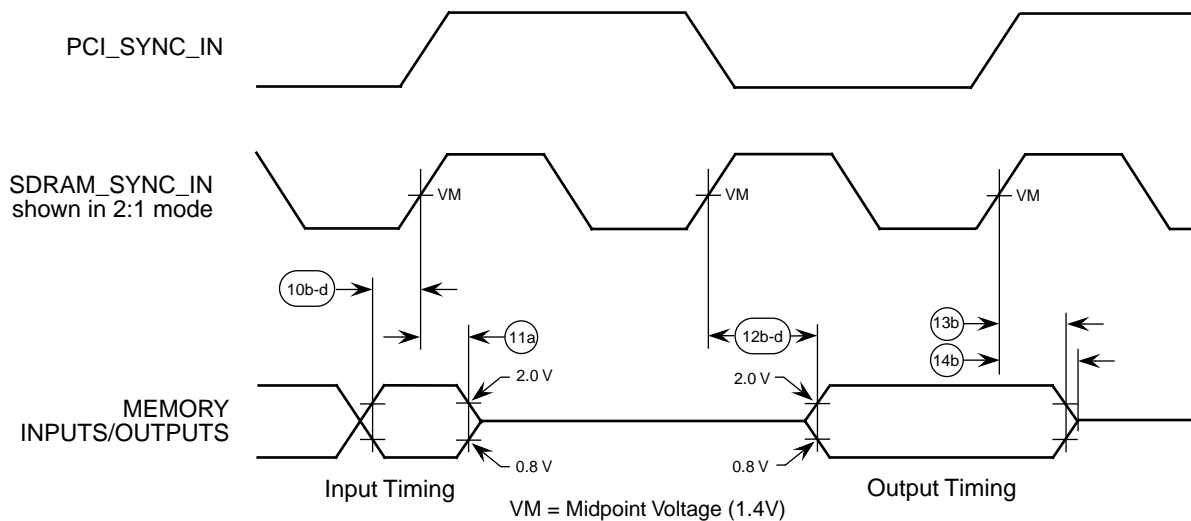
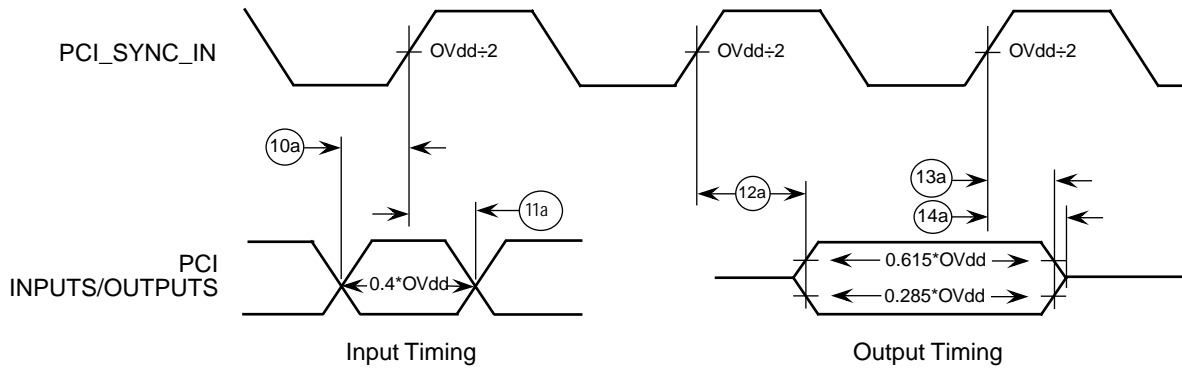

Figure 7. Input - Output Timing Diagram Referenced to SDRAM_SYNC_IN
Figure 8. Input - Output Timing Diagram Referenced to PCI_SYNC_IN
Table 9 provides the input AC timing specifications. See Figure 7 and Figure 8.
- 1 All memory, processor, and related interface input signal specifications are measured from the TTL level (0.8 or 2.0 V) of the signal in question to the $V_M = 1.4$ V of the rising edge of the memory bus clock, SDRAM_SYNC_IN. SDRAM_SYNC_IN is the same as PCI_SYNC_IN in 1:1 mode, but is twice the frequency in 2:1 mode (processor/memory bus clock rising edges occur on every rising and falling edge of PCI_SYNC_IN). See Figure 7.
- 1 All PCI signals are measured from OVdd/2 of the rising edge of PCI_SYNC_IN to 0.4*OVdd of the signal in question for 3.3 V PCI signaling levels. See Figure 8.
Figure 7 shows input-output timing referenced to SDRAM_SYNC_IN and Figure 8 the input-output timing referenced to PCI_SYNC_IN.
Table 10 provides the processor bus AC timing specifications for the MPC107. See Figure 7 and Figure 8.
- 1 All memory and related interface output signal specifications are specified from the V_M = 1.4 V of the rising edge of the memory bus clock, SDRAM_SYNC_IN to the TTL level (0.8 or 2.0 V) of the signal in question. SDRAM_SYNC_IN is the same as PCI_SYNC_IN in 1:1 mode, but is twice the frequency in 2:1 mode (processor/memory bus clock rising edges occur on every rising and falling edge of PCI_SYNC_IN). See Figure 7.
- 2 All PCI signals are measured from OVdd/2 of the rising edge of PCI_SYNC_IN to 0.285*OVdd or 0.615*OVdd of the signal in question for 3.3 V PCI signaling levels. See Figure 8.